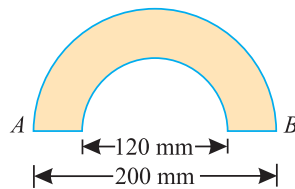

Fig. 7.11.
**Example 7.8.** A hollow semicircular section has its outer and inner diameter of 200 mm and 120 mm respectively as shown in Fig. 7.11.